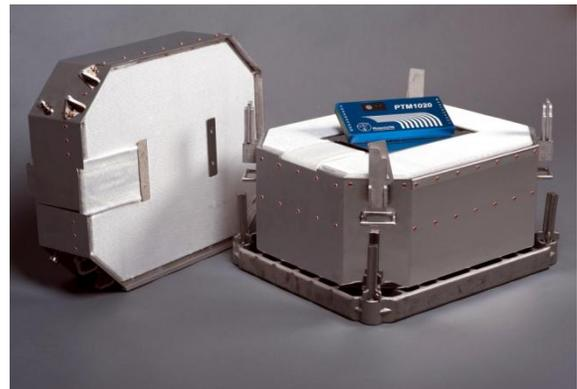

Figure 8 'octagonal' thermal barrier fits within boundaries of tray. Catches are on 'short corners' to maximise thermal performance
- **Engineering solution.** The system must use the 'heat sink' design as an 'evaporative' system cannot be used in a carburising atmosphere. The system can be kept within the boundaries of the tray, and the thermal capacity maximised by using an 'octagonal' thermal barrier design where the catches (which secure the lid to the base) are placed on the 'short corners' (figure 8). Surveying the furnace presents a difficulty as the thermal barrier, of necessity, takes up the whole space on the tray, preventing the positioning of a central surveying thermocouple. However as the process is continuous, then surveying to AMS2750E using the 'plane method' is allowable, and there is generally enough room at the leading edge of the barrier to accommodate the measuring thermocouples.